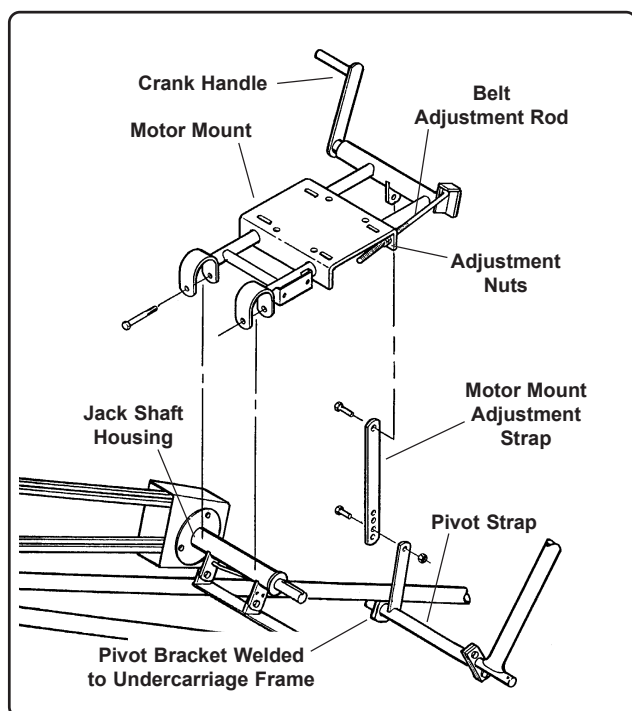

Fig. 15
8. Insert the tube end of the undercarriage pivot strap into the pivot bracket welded to the bottom side of the carriage frame just to the front of the jackshaft adjustment rod (See Fig. 15).
9. Fasten the motor mount frame to the jackshaft assembly as shown in Fig. 15. Secure using two (2) 3/8 x 3 1/2" bolts and nylon locknuts, **tighten only enough to still allow the motor mount to pivot freely on the jackshaft.**
10. Attach the adjustment strap to the mounting tab on front of the motor mount assembly (attach the end of the strap that has only one hole). Secure using one (1) 1/2 x 1 1/4" bolt and nylon locknut (**do not tighten completely, the adjustment strap must be allowed to pivot freely.**)